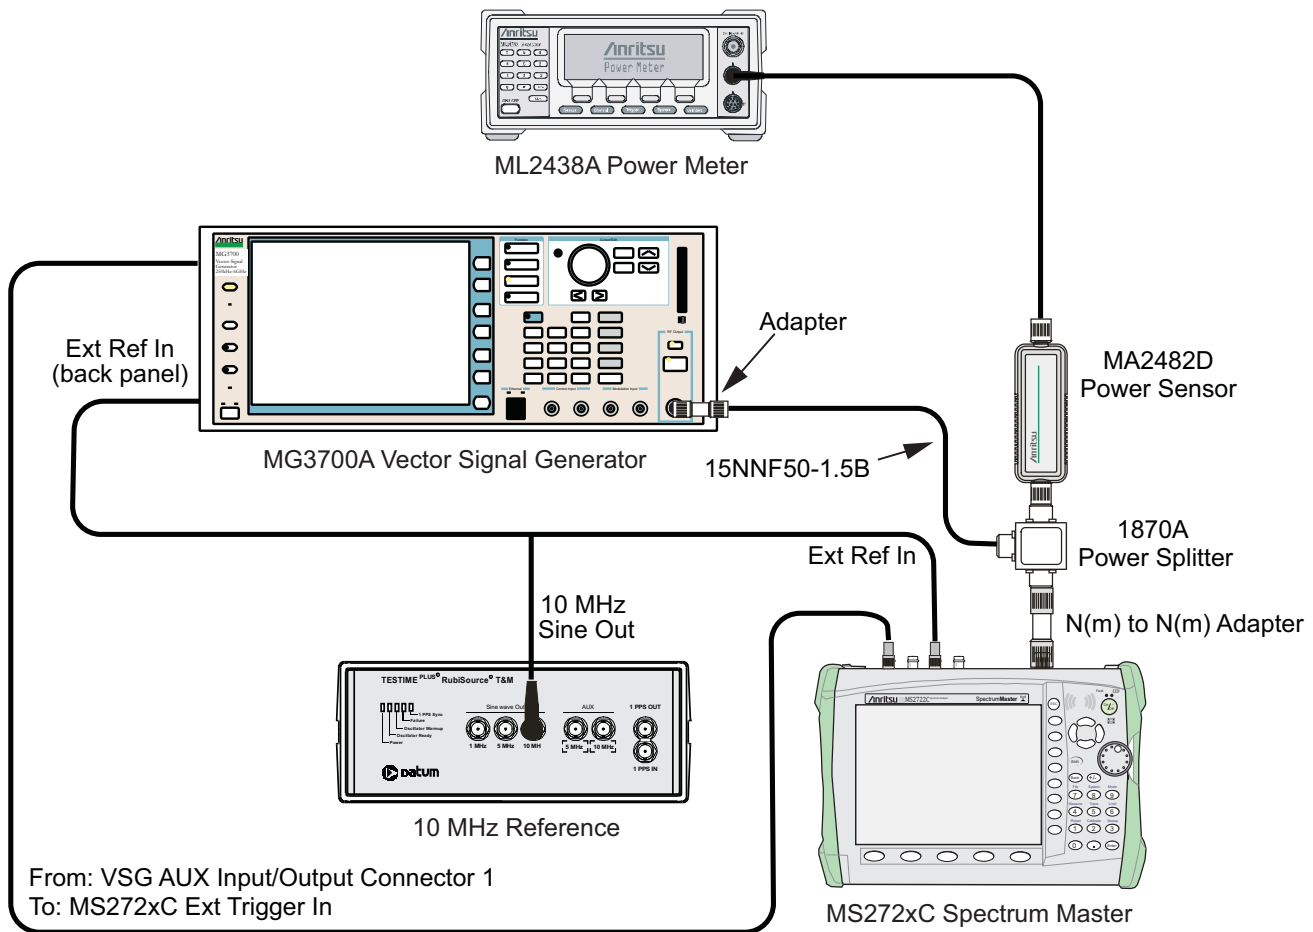

Figure 3-9. EVDO Signal Analyzer, Test Setup
2. Connect the equipment as shown in Figure 3-9.